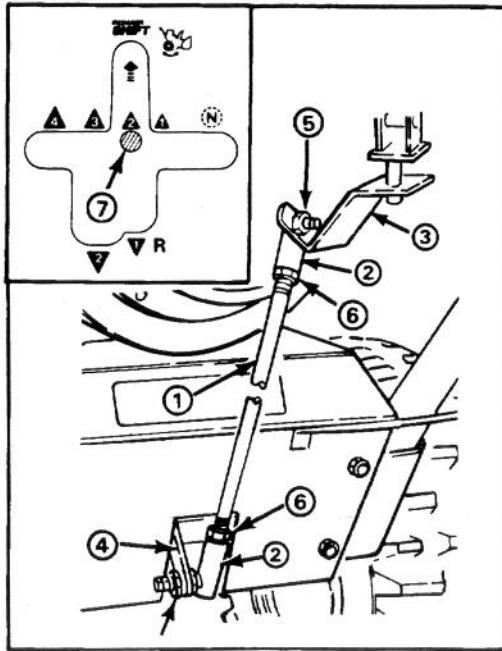

Figure 28
**Note:** If gear shift lever is not aligned with Power Shift slot in control panel (Fig. 28 inset), shift rod length must be adjusted as follows: